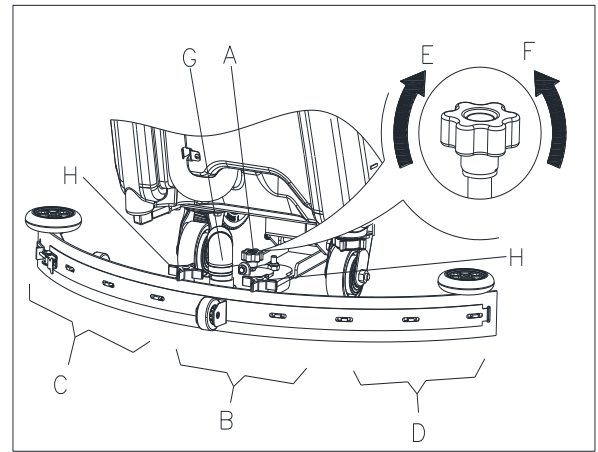

Figure 11
1. Install the squeegee and tighten up the nuts (H, Figure 11), then connect the vacuum hose (G) to the squeegee.
2. Adjust the squeegee by squeegee adjusting handle (A, Figure 11).
- a) If there is gap between the ground and middle *section* of rear squeegee blade (B), adjust the knob (A) in counterclockwise direction (F) until all sections of the rear squeegee blade make good contact with the ground, the front blade touches the ground slightly.
- b) If there is gap between the ground and both end section of rear blade (C and D), adjust the knob (A) in clockwise direction (E) until all sections of the rear squeegee blade make good contact with the ground, the front blade touches the ground slightly.